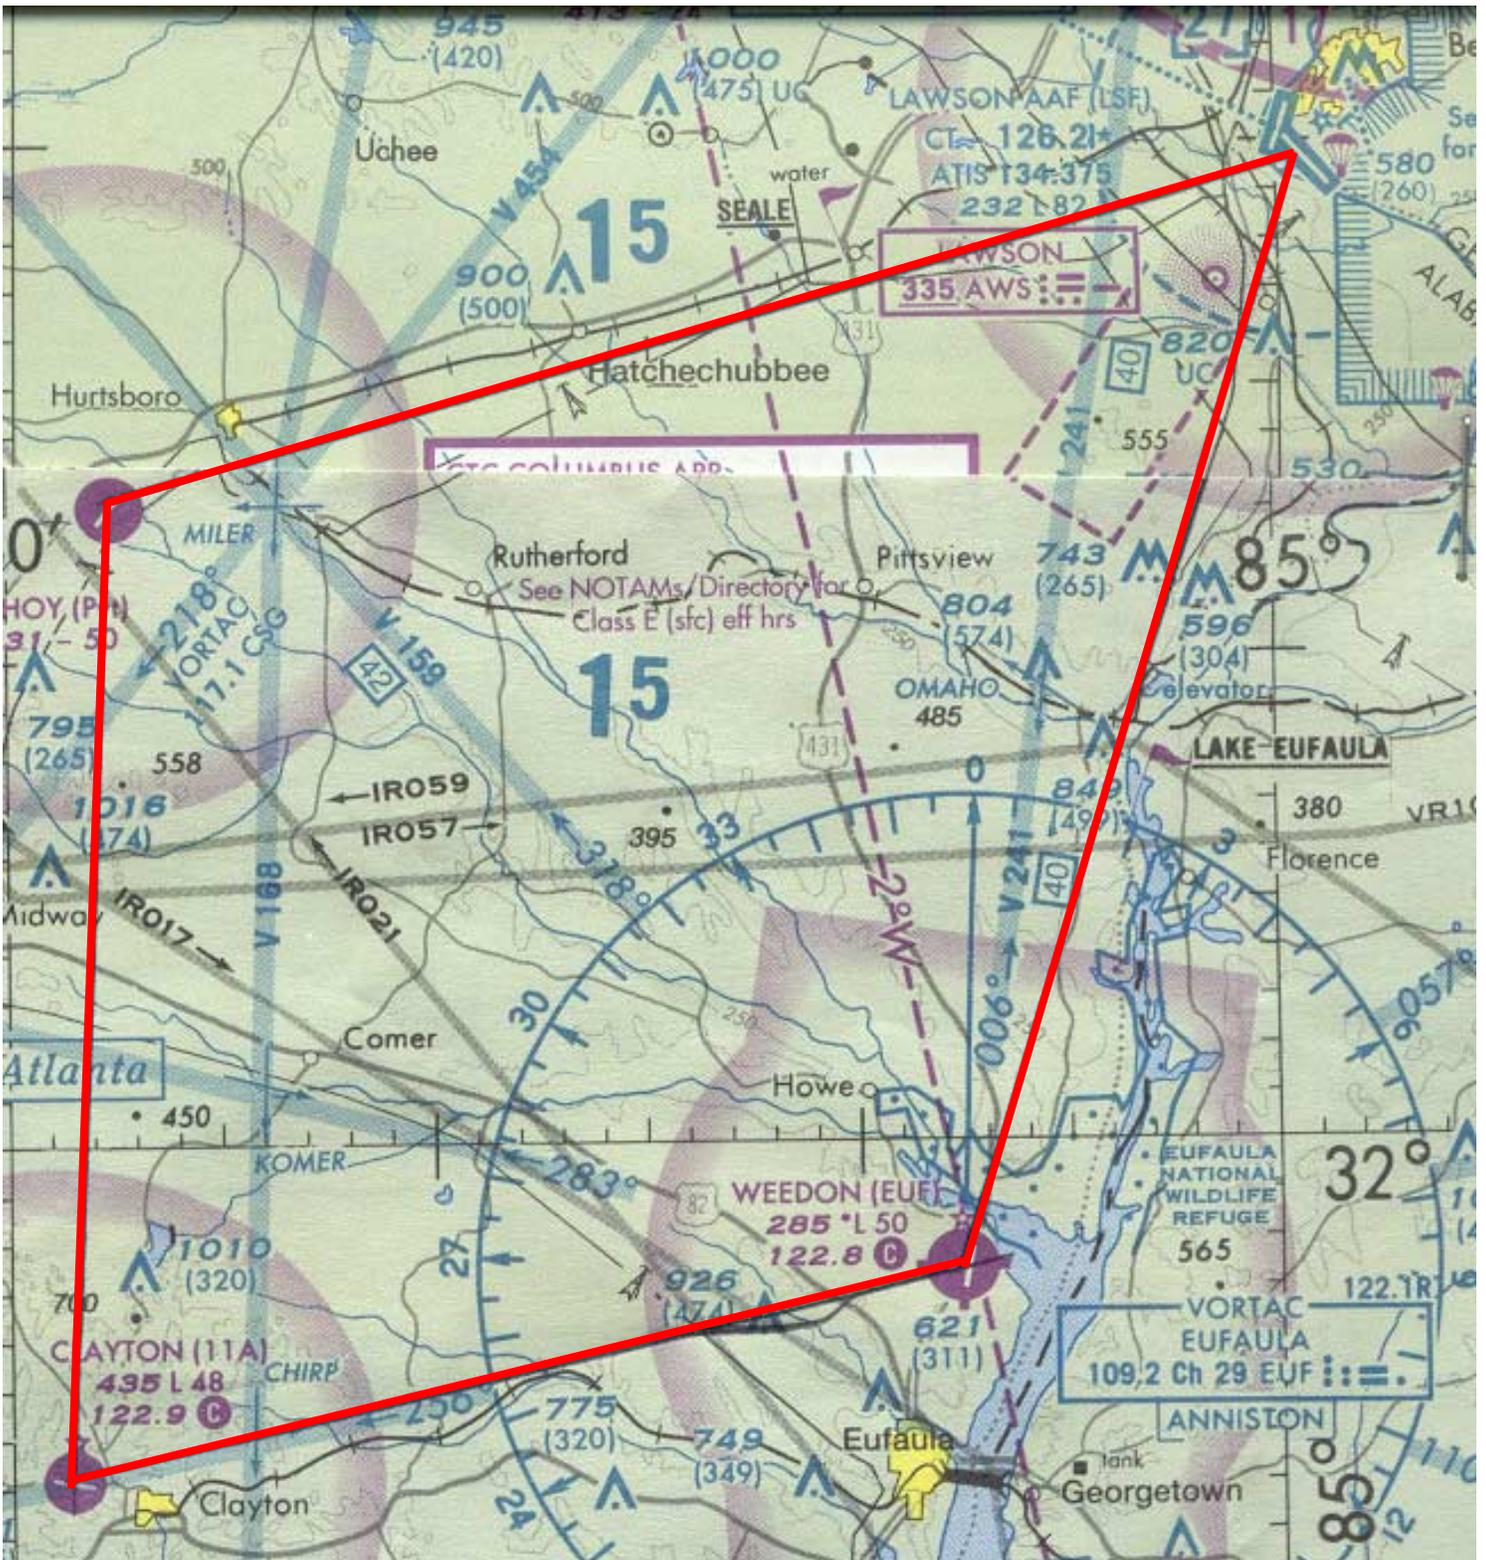

FIGURE 4-2 Maintenance Test Flight Area
c. The Maintenance Test Flight Area for Fort Benning is defined as that area encompassed by the following points/ coordinates: Lawson Army Airfield (N32°20.00 085°00.00'); to Seho Strip (Pvt) (N32°12.50' W085°28.02'); to Clayton Municipal Airport (N31°53.00' W085°29.10'); to Weedon Field (Eufaula) (N31°57.08' W085°25.88'); then northeast along the Chattahoochee River to Lawson Army Airfield. See Figure 4-2.
(1) Aircraft type and identification.
(2) Location on airfield.
(3) Pilot's intentions.